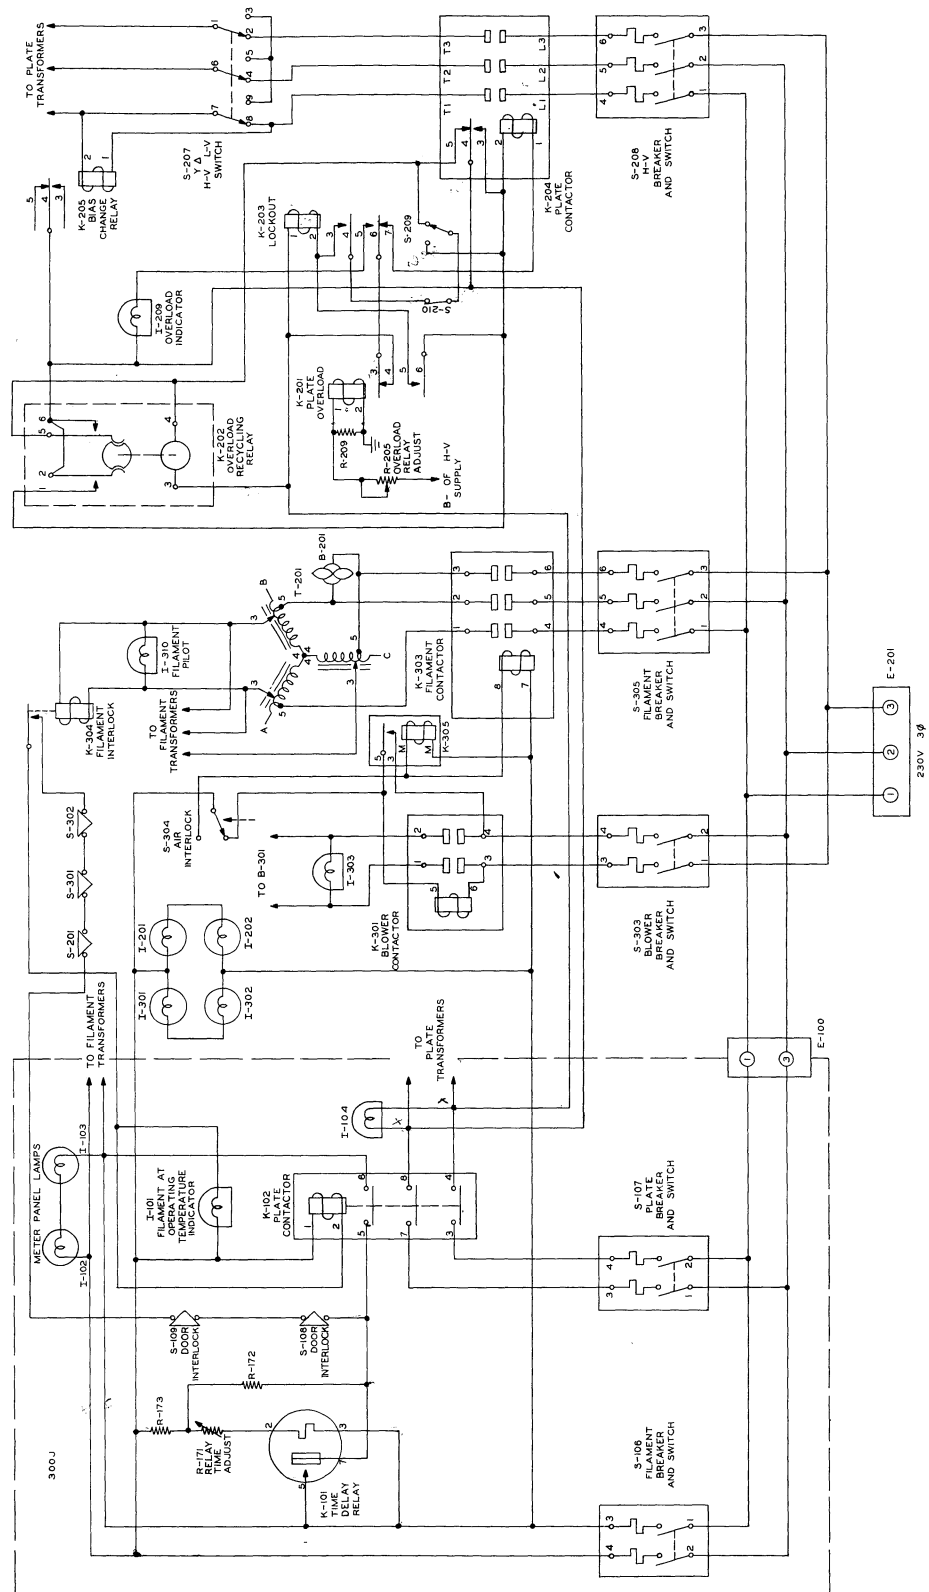

Figure 4-3. Complete Control Circuits.
The thermal time delay relay contains a heating element, a bi-metallic strip, and a set of contacts. As shown in figure 4-3, the time delay relay contacts are in series with the door interlocks. The temperature within the relay affects the bi-metallic element and causes the contacts to open or close. Thermal inertia of the heating element and bi-metallic strip causes the time delay relay to automatically select the proper time delay interval after power interruptions. If the power is removed for an instant and then returned, there will be no delay period as the bi-metallic element will not have cooled sufficiently to open the contacts. Also, the filaments will not have cooled to the point where a warm-up period is necessary. This is a distinct advantage over the more common time delay systems which provide a set delay period regardless of the temperature of the tube filaments and therefore prevent operation of the transmitter until the standard time delay has passed, even though the power interruption was momentary and the filaments remain at operating temperature. The thermal time delay relay provides the quickest possible return to the air after a power interruption. When the relay contacts close, they place resistor R-172 in shunt with the relay heater element and relay adjustment R-171 to reduce the current through the heater while the transmitter is on the air.
One set of contacts on the plate relay are hold-in contacts which short the thermal time delay relay contacts as shown in figure 4-3. The
4.4.1. PLATE POWER CONTROL. (See figure 4-3) The plate power supplies are interlocked with the filament supplies so that it is impossible to turn any plate supply on unless the filaments have been first turned on. The PA plate supply is interlocked with the driver plate supply so that the driver plate supply must be turned on before the PA plate can be turned on. Other interlocks include: door interlocks, overload interlock and cooling blower interlock.